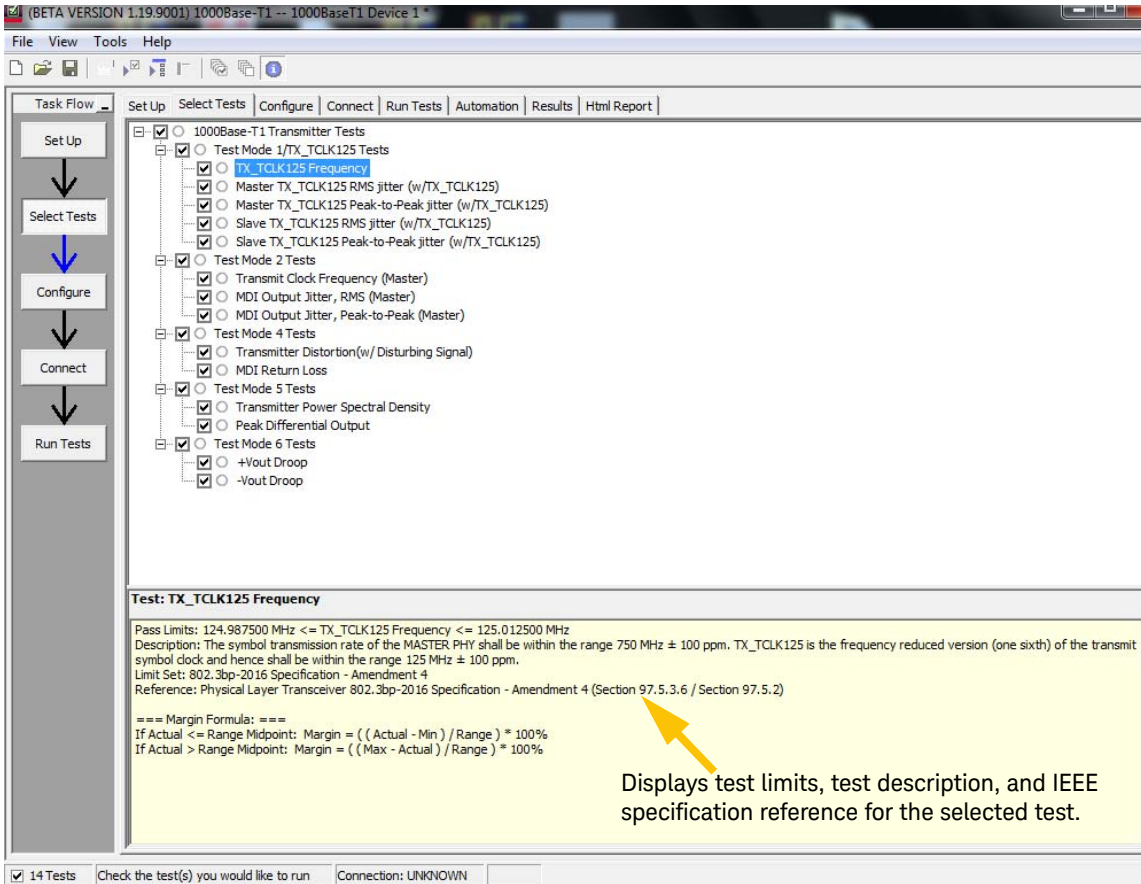

Figure 1-6 Select Tests Menu with all tests selected
- 6 Figure 1-6 above shows all the tests that are available in E6960A 1000Base-T1 Compliance Test Application.